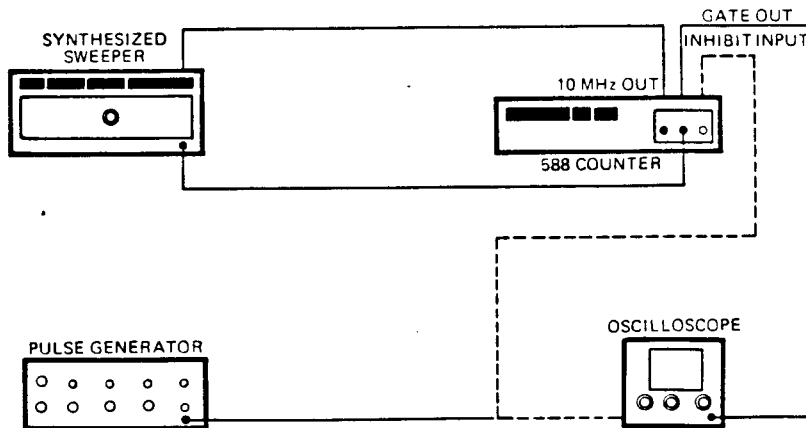

Figure 4-16. Band 2 Gate Error Test Setup
1. Connect equipment as shown in Figure 4-16 and turn equipment on.